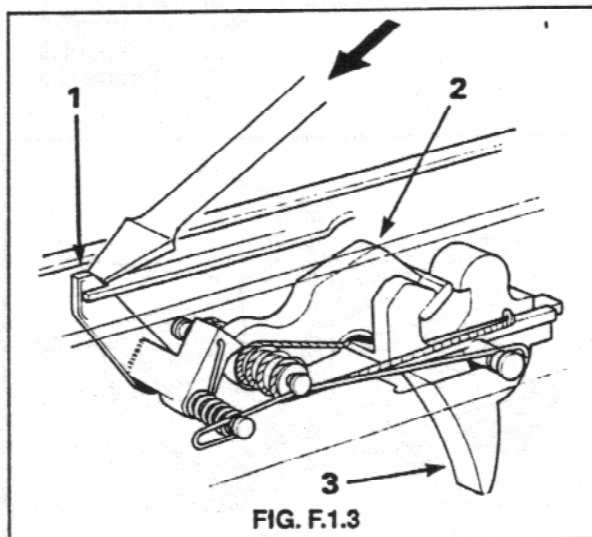

FIG. F.1.3
2. Position the change lever to either the 'A' (Automatic) or 'R' Repeat (Rounds) position. Using a suitable tool apply pressure to the top of the disconnecter to disconnect it from the hammer, then squeeze the trigger taking care to keep fingers clear of the hammer as it strikes forward. See Fig. F.1.3.